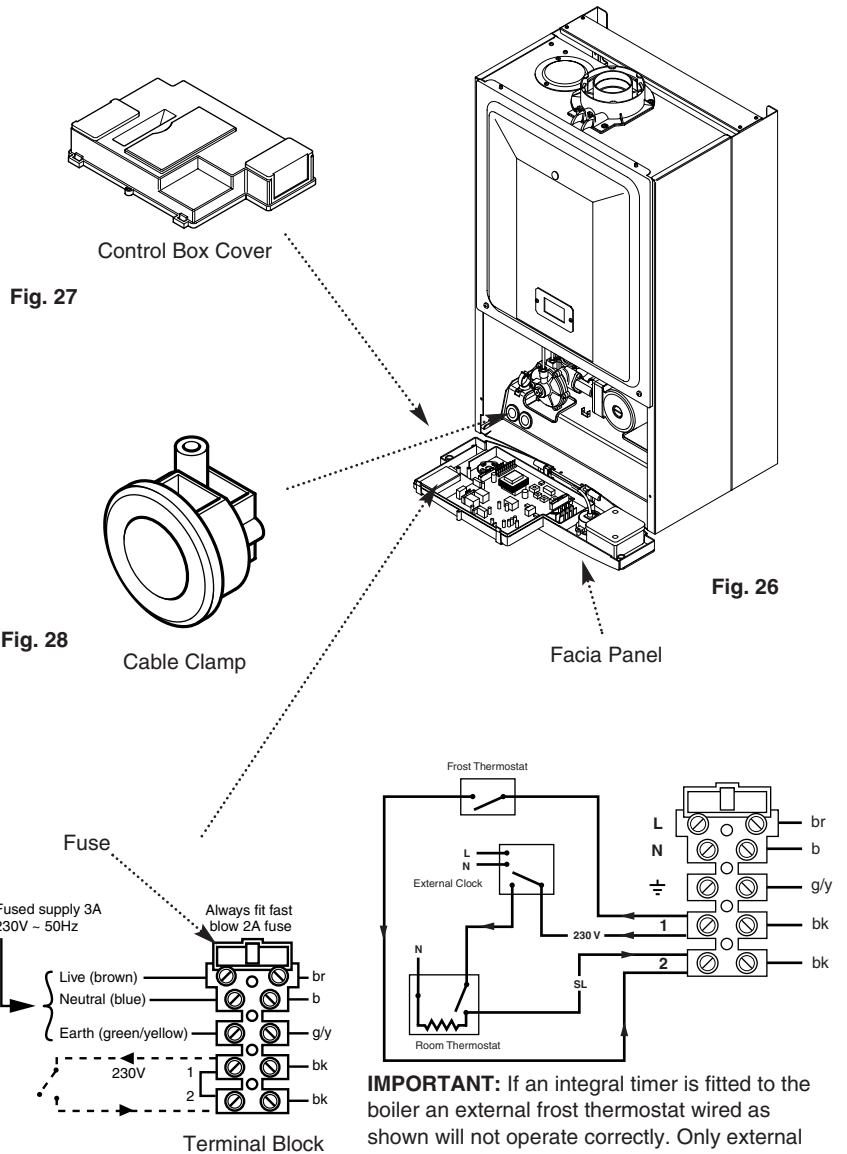

Fig. 29
7. To connect external control(s) remove the link between terminals 1 & 2. The 230V supply at terminal 1 can be connected to the external control. The switched output from the external control must be connected to terminal 2. (Fig. 29).
**NOTE:** If the room thermostat being used incorporates an anticipator it **MUST** be wired as shown in Fig. 29